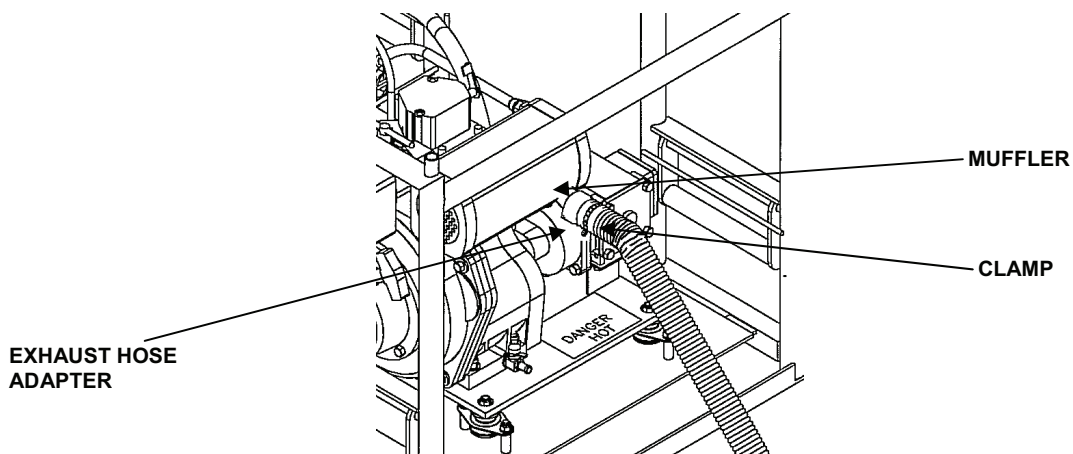

Figure 7. Diesel Engine Exhaust Hose Installation.
5. Place adapter portion of 12 ft. hose assembly over engine exhaust pipe. See Figure 7.